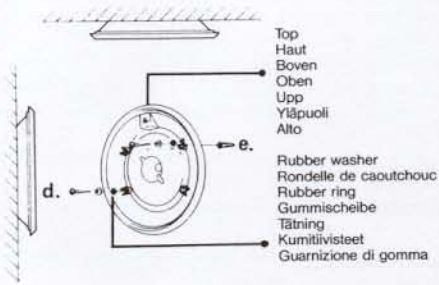

Fig.6
9. Push the main supply cable through the grommet (fig 1, part a). Mount the fitting onto the box and fix securely with two screws (not supplied) (Fig 6). If mounted on the wall position the fitting so that 'TOP' is at the top. Go to 13.